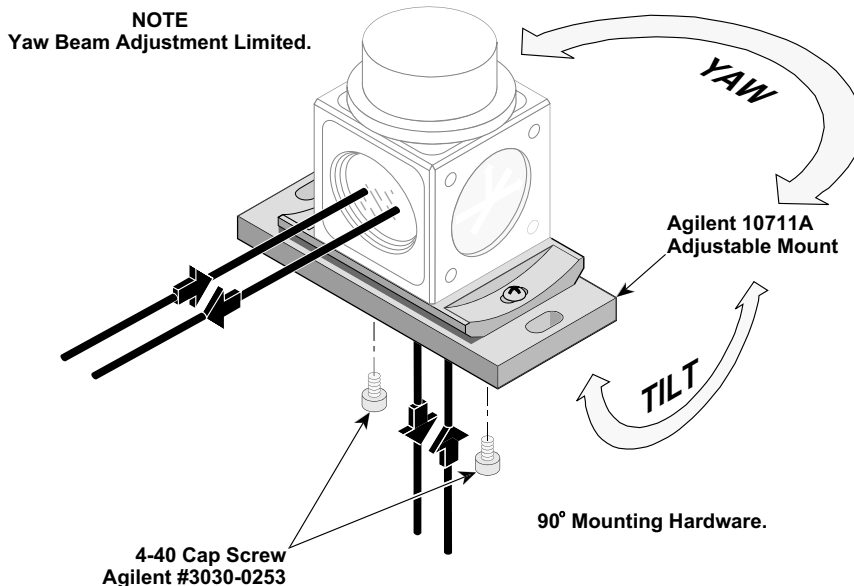

Figure 4-5. Vertical Plane Mounting Using the Agilent 10711A Adjustable Mount
4. Figure 4-5 shows how to mount certain linear, plane mirror, or differential interferometers in the vertical plane, using the Agilent 10711A Adjustable Mount.